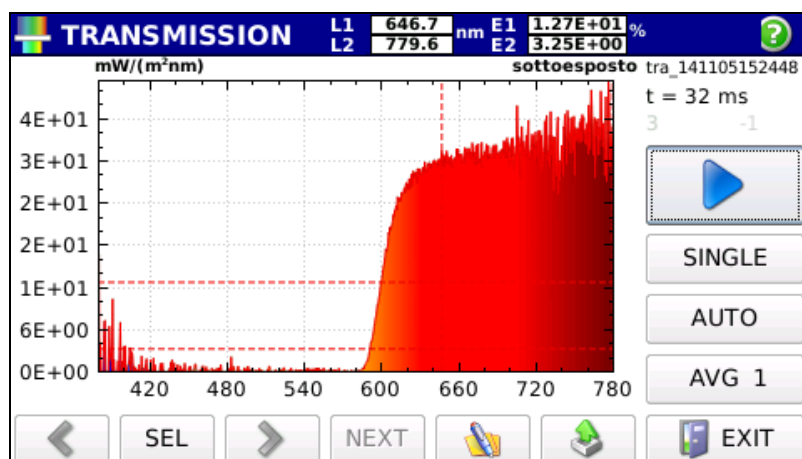

Fig. 3.26: spectral transmission measurement
3.4.4 By pressing the Start button (enabled only if the reference spectrum has been performed) you launch the transmission measurement displayed on the screen (Fig. 3.26).